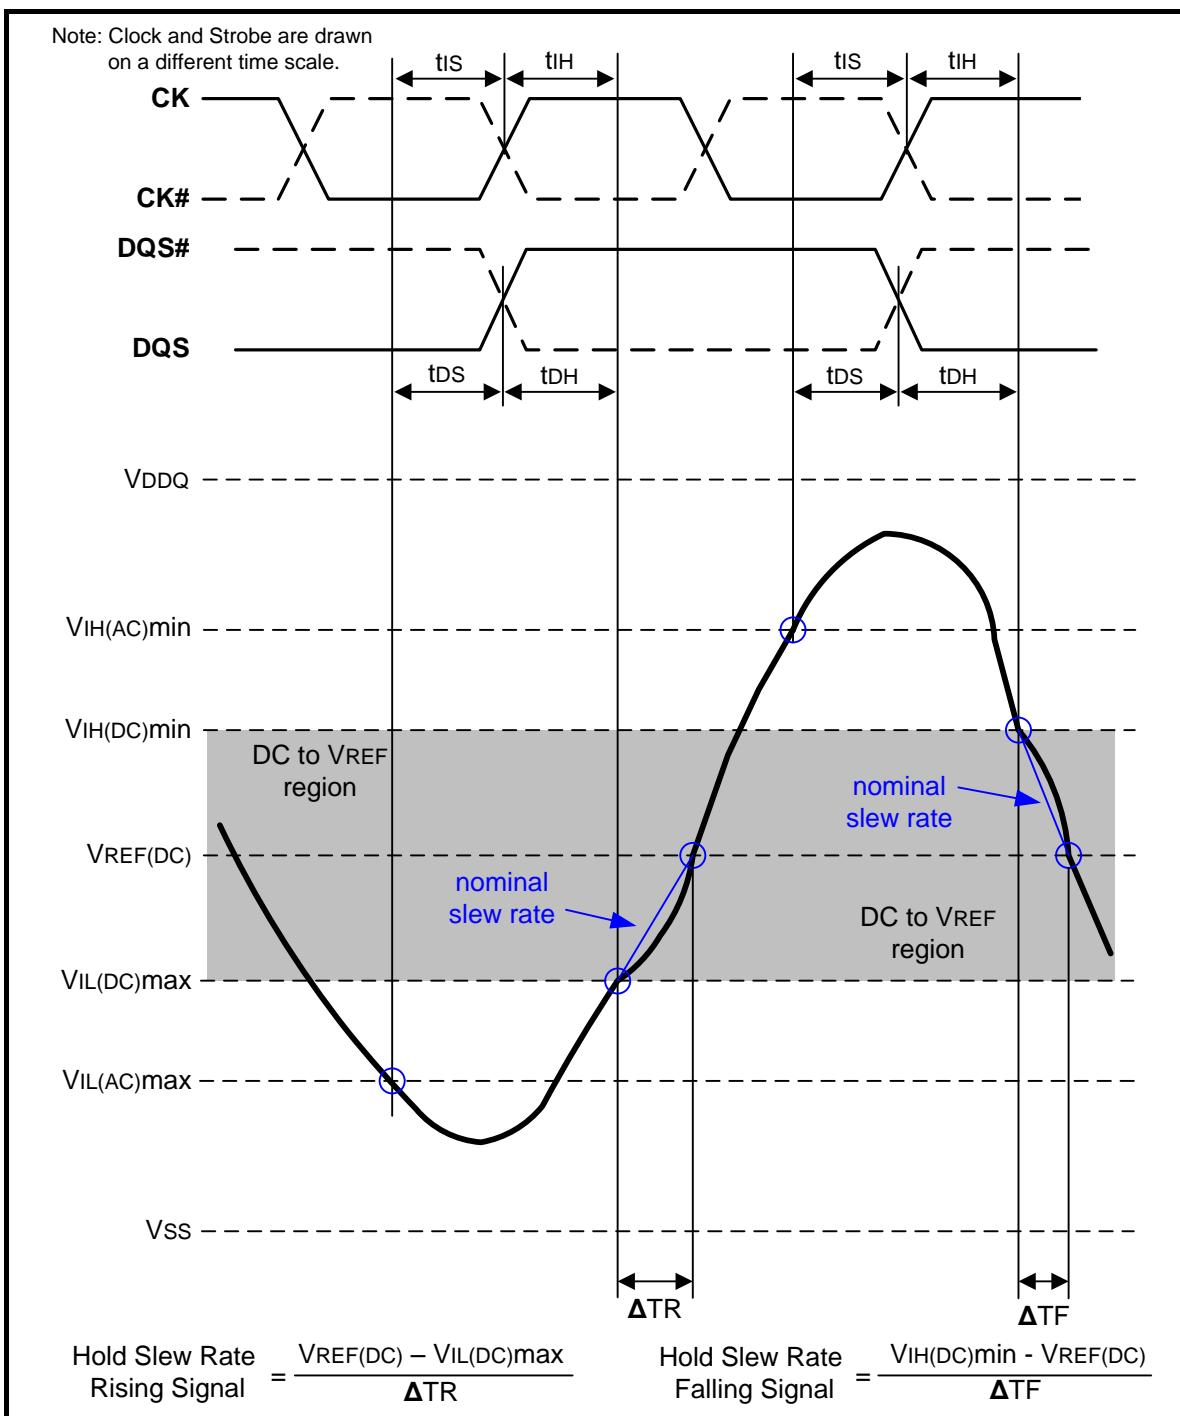
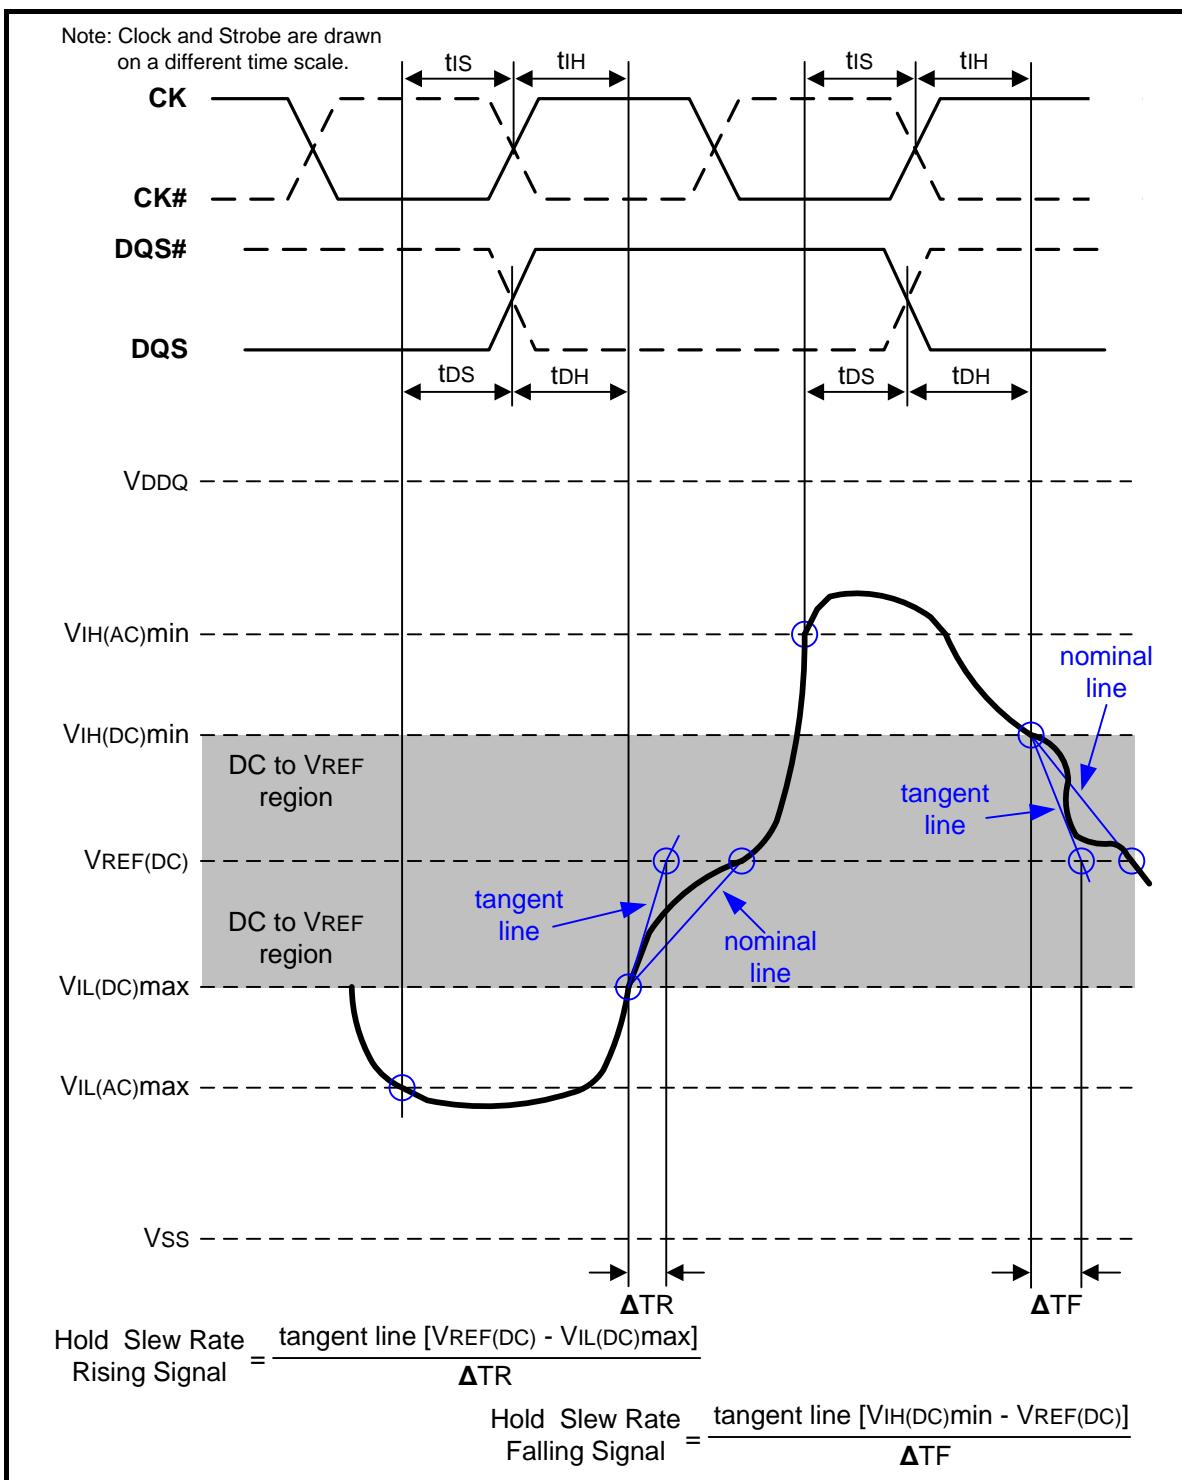

Figure 108 – Illustration of nominal slew rate for hold time t_{DH} (for DQ with respect to strobe) and t_{IH} (for ADD/CMD with respect to clock)
Figure 110 – Illustration of tangent line for hold time tDH (for DQ with respect to strobe) and tIH (for ADD/CMD with respect to clock)
Hold (tIH) nominal slew rate for a rising signal is defined as the slew rate between the last crossing of VIL(DC)max and the first crossing of VREF(DC). Hold (tIH) nominal slew rate for a falling signal is defined as the slew rate between the last crossing of VIH(DC)min and the first crossing of VREF(DC). If the actual signal is always later than the nominal slew rate line between shaded 'DC to VREF(DC) region', use nominal slew rate for derating value (see Figure 108). If the actual signal is earlier than the nominal slew rate line anywhere between shaded 'DC to VREF(DC) region', the slew rate of a tangent line to the actual signal from the DC level to VREF(DC) level is used for derating value (see Figure 110).
Hold (tDH) nominal slew rate for a rising signal is defined as the slew rate between the last crossing of VIL(DC)max and the first crossing of VREF(DC). Hold (tDH) nominal slew rate for a falling signal is defined as the slew rate between the last crossing of VIH(DC)min and the first crossing of VREF(DC) (see Figure 108). If the actual signal is always later than the nominal slew rate line between shaded 'DC level to VREF(DC) region', use nominal slew rate for derating value. If the actual signal is earlier than the nominal slew rate line anywhere between shaded 'DC to VREF(DC) region', the slew rate of a tangent line to the actual signal from the DC level to VREF(DC) level is used for derating value (see Figure 110).